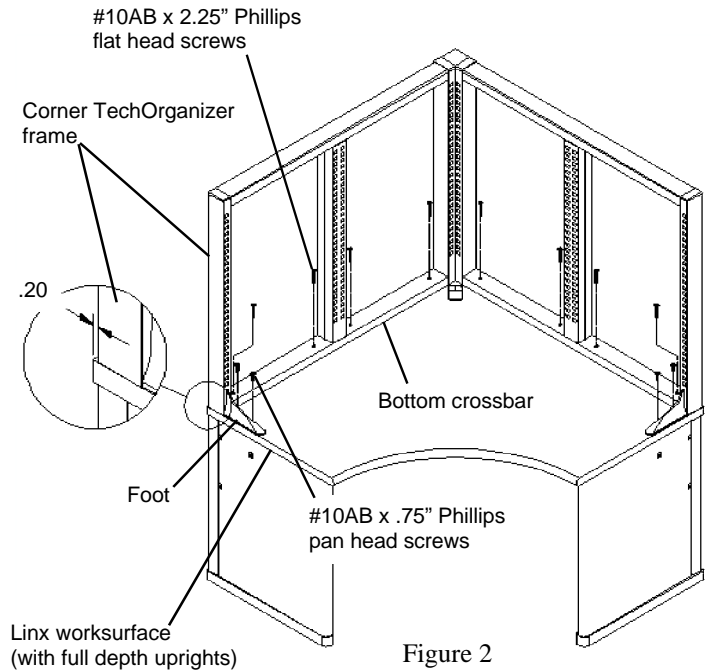

Figure 2
2. With two people, position the TechOrganizer in the desired location on the back of the Worksurface. On a Linx Worksurface, locate the back of the frame .20" from the back edge of the Worksurface. See **Figure 2**.
3. Using the holes in the frame bottom crossbar and the holes in the feet as a template, locate and drill the appropriate quantity of .113 dia. holes .50" deep in the Worksurface. See **Figure 2**.
4. Attach the frame bottom crossbar to the worksurface using the #10AB x 2.25" Phillips head flat head screws (provided). See **Figure 2**.
5. Attach the feet to the Worksurface using the four #10AB x .75" Phillips pan head screws (provided). See **Figure 2**.
2. Attach the Board panel to the Mounting Channels by inserting the panel hooks into the rectangular slots in the Mounting Channels. See **Figure 2**.
3. Lock the Board in place by installing two #10-24 x 3/4" Phillips pan head thread forming screws into the bottom of the panel. See **Figure 2**.